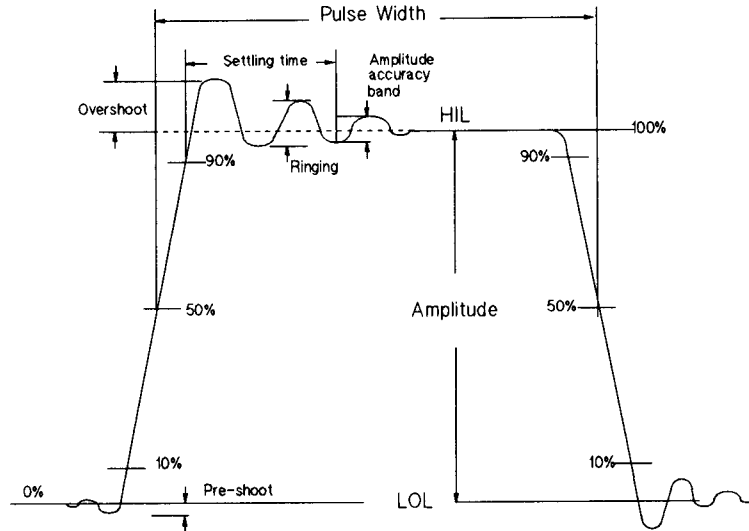

Figure 8-11. Pulse Performance Characteristics
4. Examine the HP 8112A output on the scope display in order to verify that the pulse characteristics do not exceed the specified limits as identified in Figure 8-11.
- Examine the HP 8112A output on the scope display in order to verify that the pulse characteristics do not exceed the specified limits as identified in Figure 8-11.